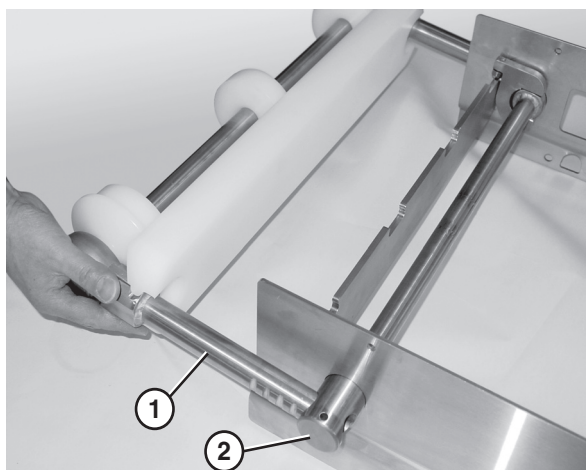

Figure 14
3. Slide the bearing shafts (**Figure 14, item 1**) into the holes in the tip up shaft (**Figure 14, item 2**).